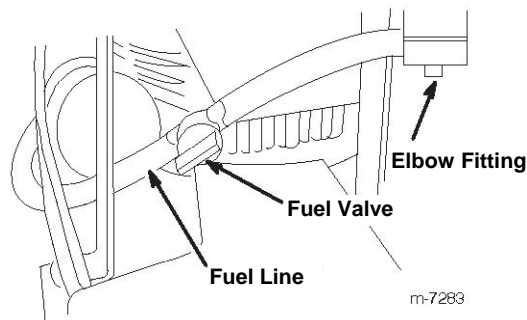
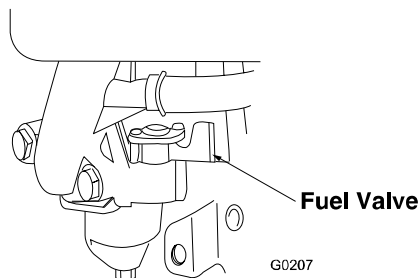

FIGURE 3
FIGURE 4
For Kawasaki Units: The fuel shut off valve is installed on the fuel line midway between the fuel tank and the engine as shown in Figure 3.
For Honda Units: The fuel shut off valve is located on the engine as shown in Figure 4.
2. Open the fuel valve (Kawasaki Units: See Figure 3, Honda Units: See Figure 4).